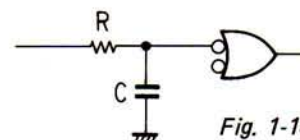

Fig. 1-18
4. The connection of Fig. 1-18 is used for eliminating any narrow pulses superimposed on the input or for obtaining short delays of the rising and falling edges, etc. This circuit is very useful in preventing the oscillation of the entire system (racing), or for preventing chattering of the inputs, etc.